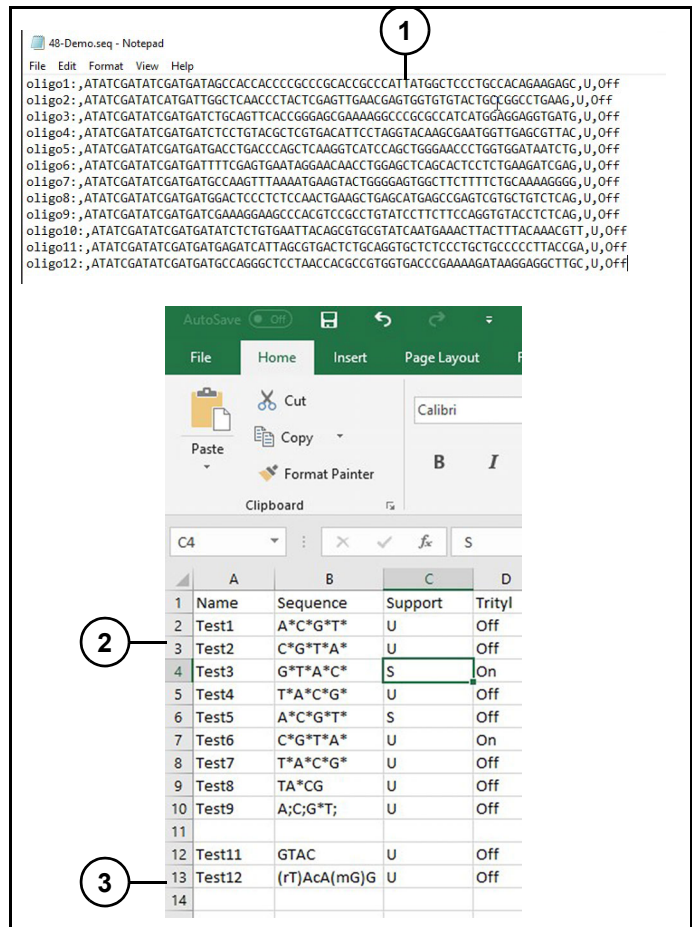

Figure 82
Refer to (Figure 82).
Abbreviated display names more than one character in length must be bracketed by parentheses as shown on line 13 (3) (Figure 82).